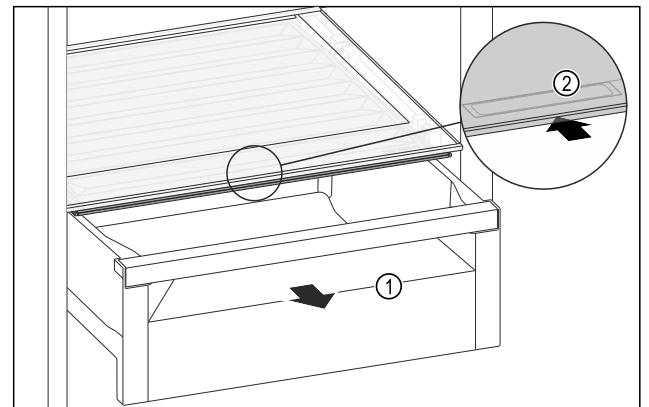

Fig. 162
- ▶ Pull out the drawer Fig. 162 (1).
- ▶ Grasp the recessed grip Fig. 162 (2) on the compartment lid and push the compartment lid backwards at the same time.